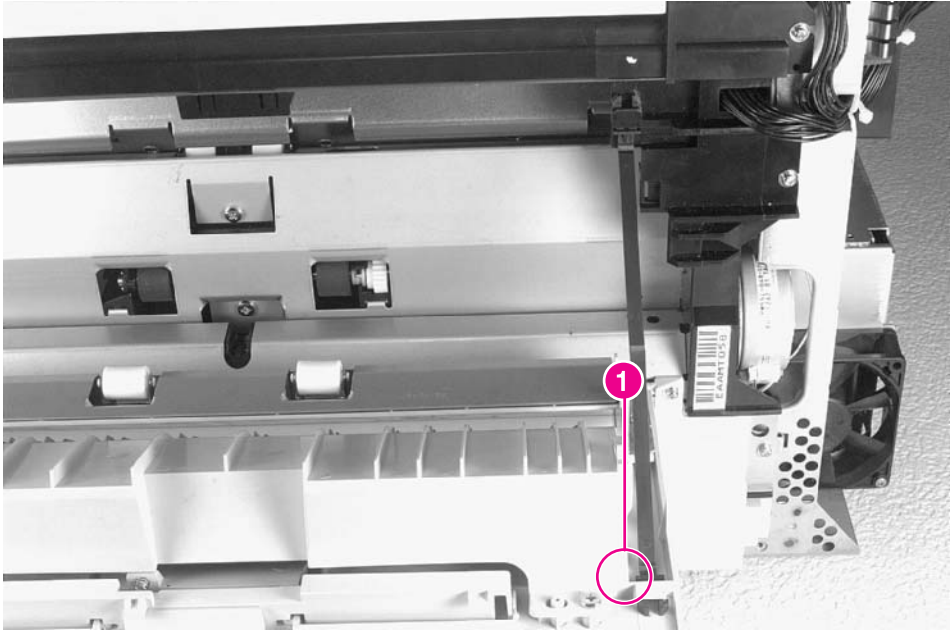

Figure 6-16 Lower Right Door Assembly (1 of 3)
- 3** Open the Lower Right Door, and release the lower end of the support strap (figure 6-16, callout 1).